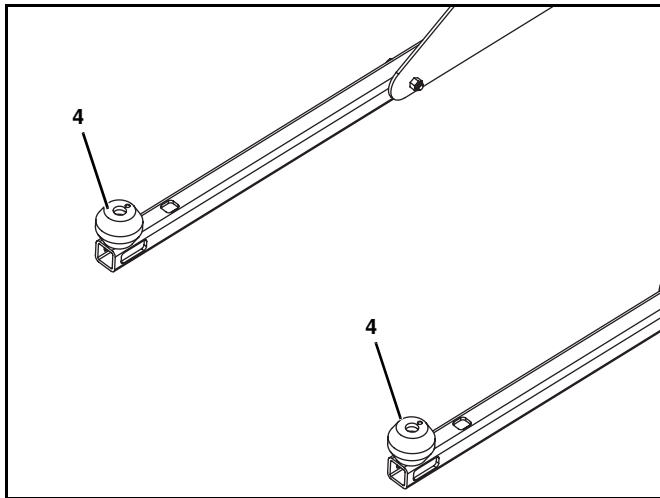

Figure 3
3. Place both rubber springs (#4), on the support tube face. (See Figure 3.)